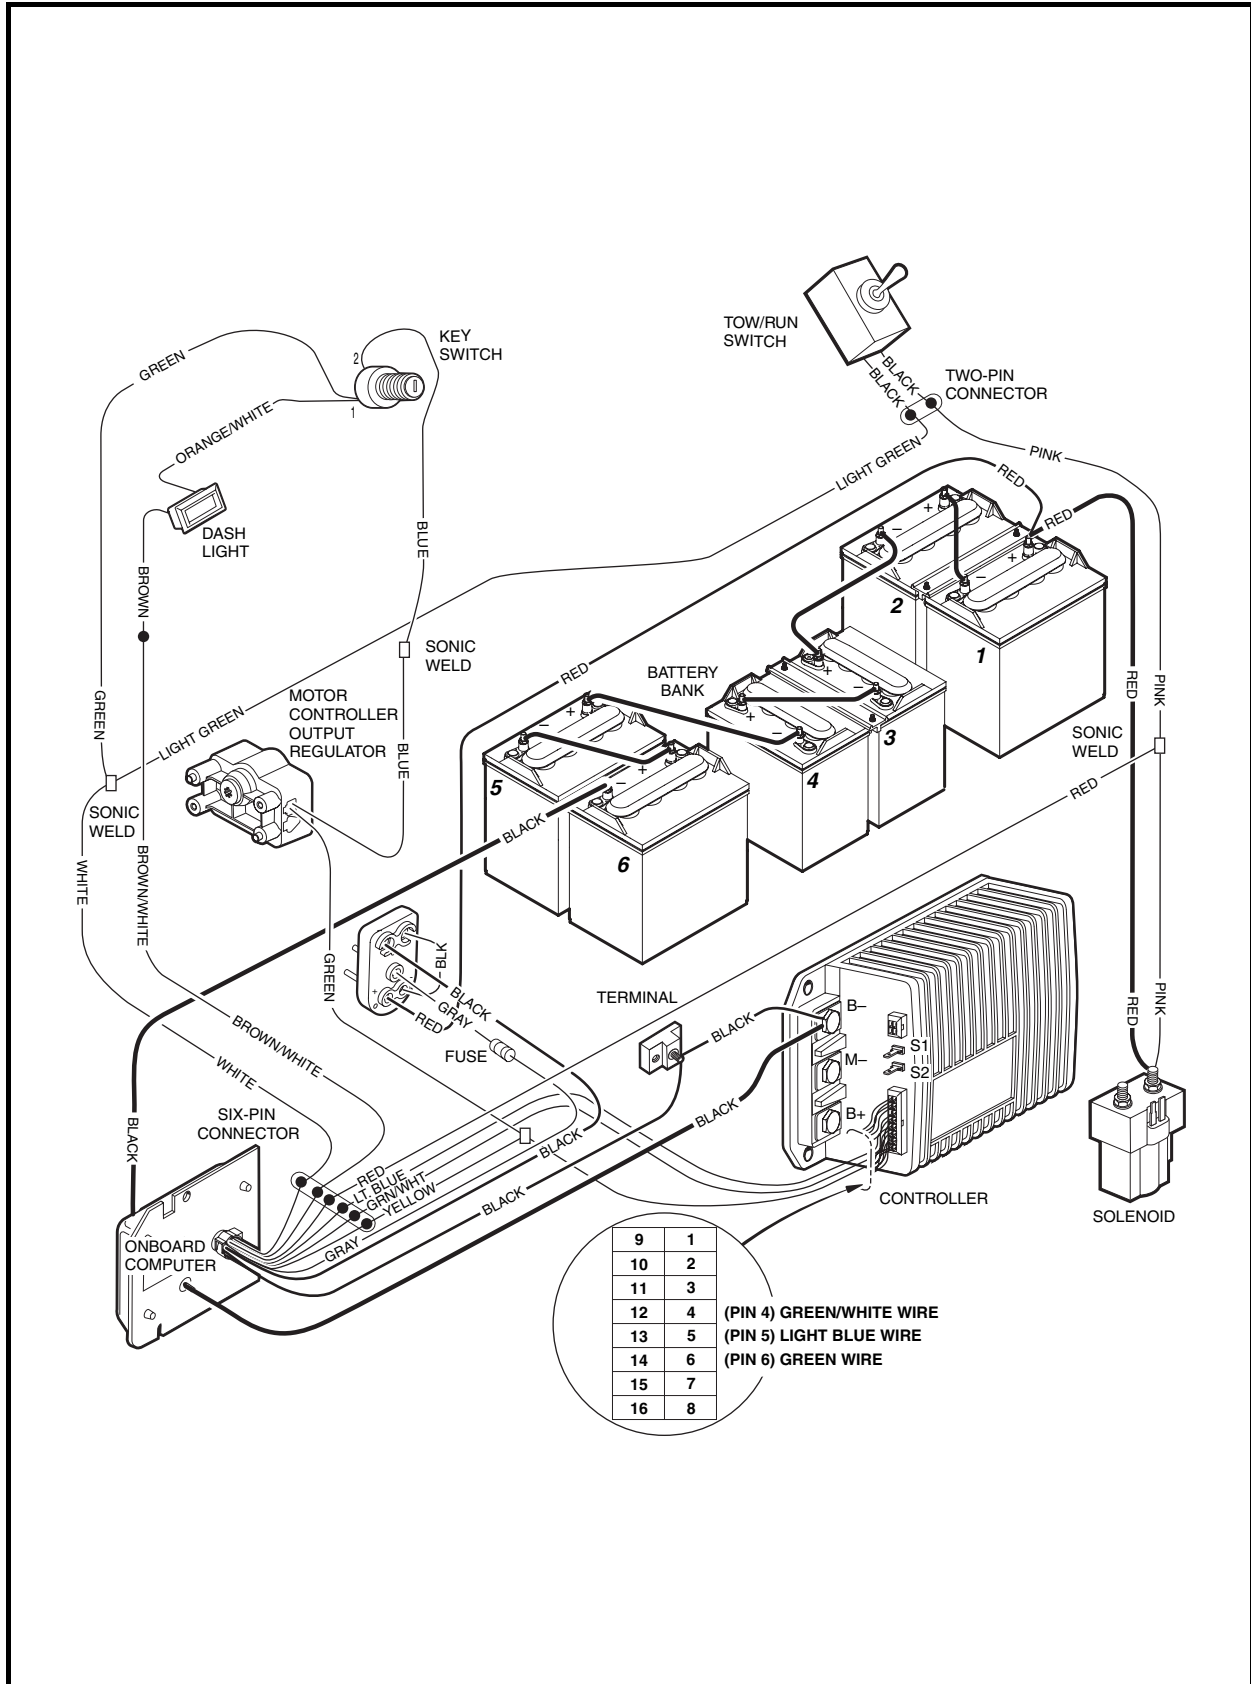

Figure 11-1 Onboard Computer Circuit
- Onboard computer circuit (**Figure 11-1, Page 11-4**)